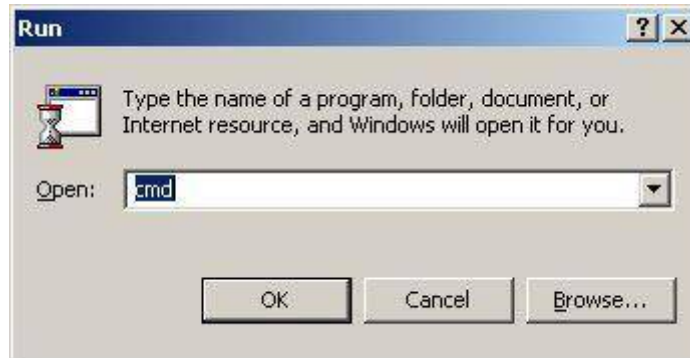

Fig. 10 – Run...
- 1) Type "cmd" in the command line (Start/Run...) and push Enter (cf. Fig. 10).